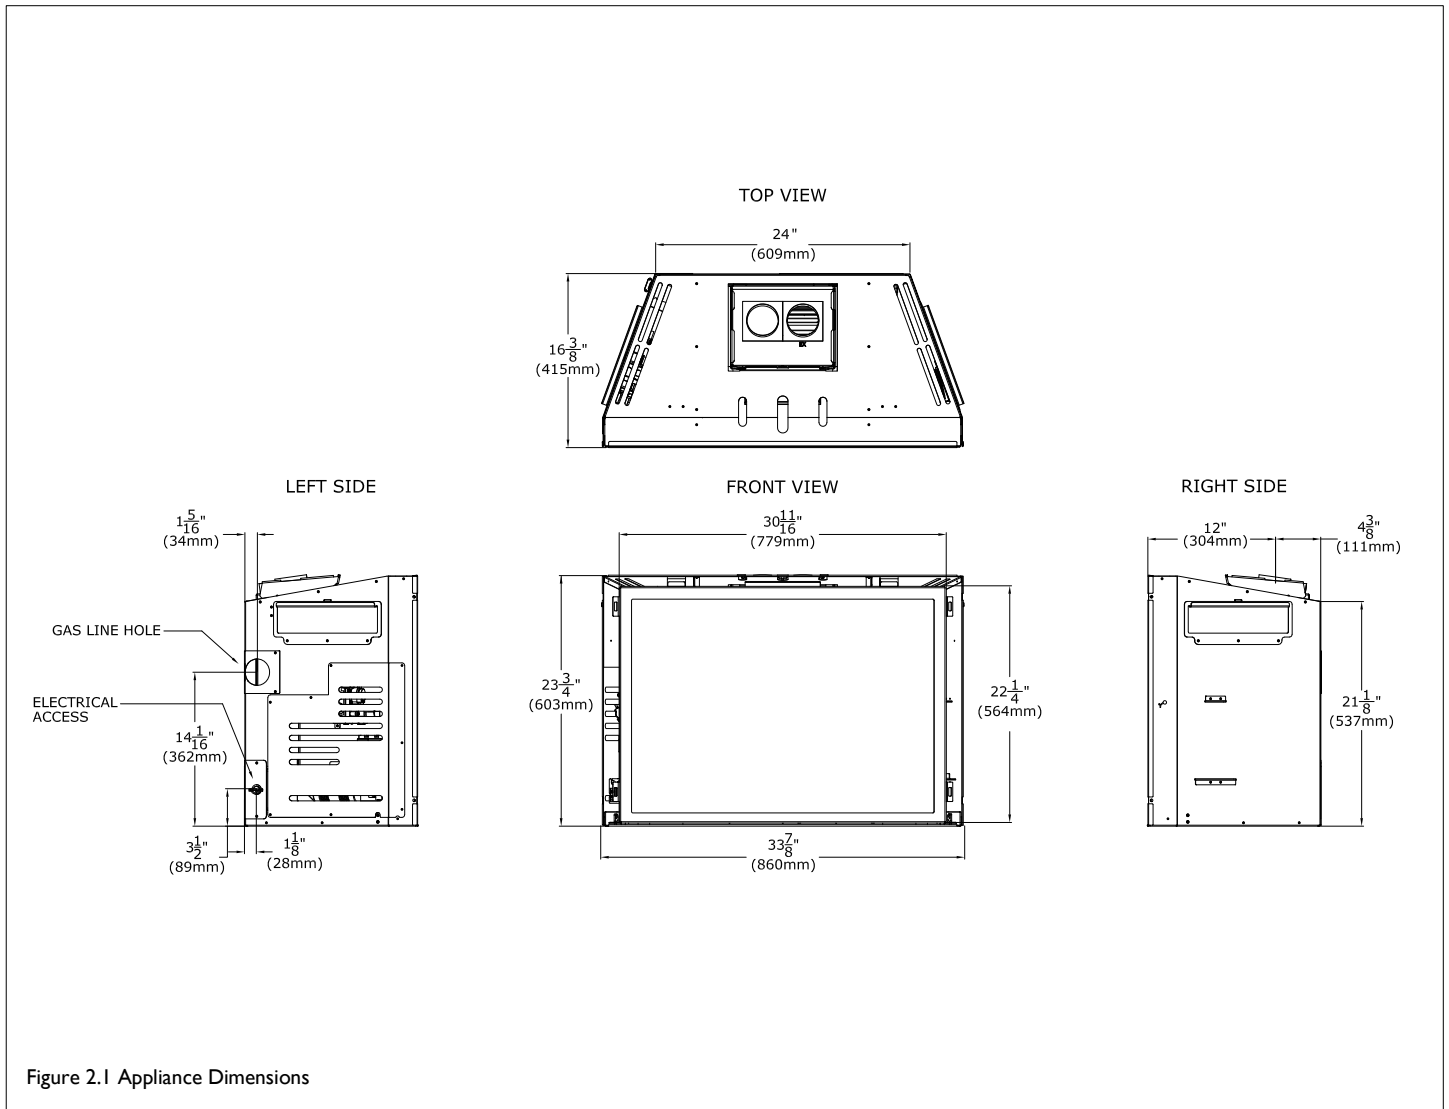

Figure 2.1 Appliance Dimensions
- A gas line must be able to be installed to the fireplace insert. Please refer to Figure 2.1 on page 9. The gas line access hole is located on the left side of the insert.